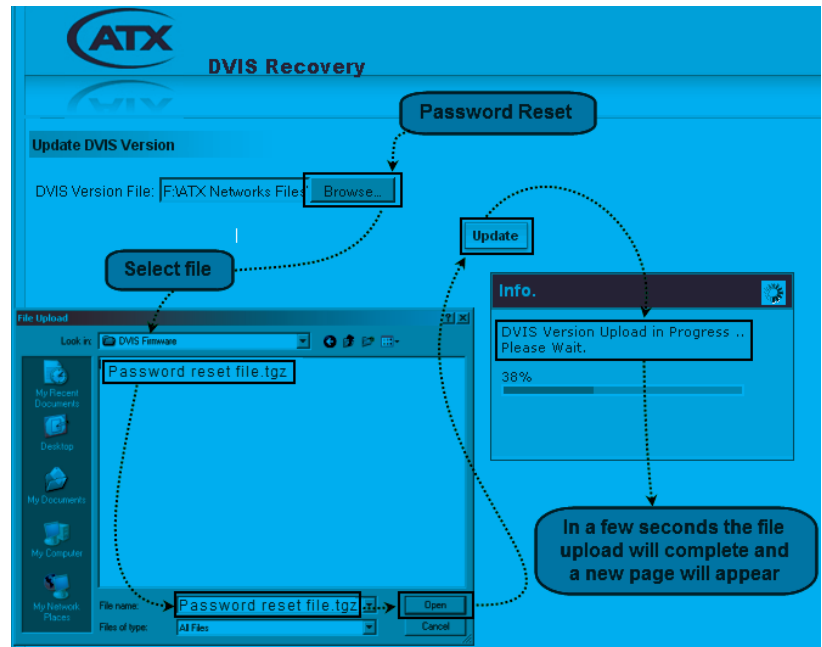

Figure 12-15: Upload Password Reset Firmware
1. Click **Browse**, navigate to the location of the saved files and select the file. The file name and location appear in the selection box, see Figure 12-15.